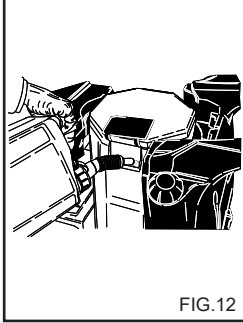

FIG.12
**BEHANDLING MED FROSTSKYDDSMEDEL (fig. 12)**